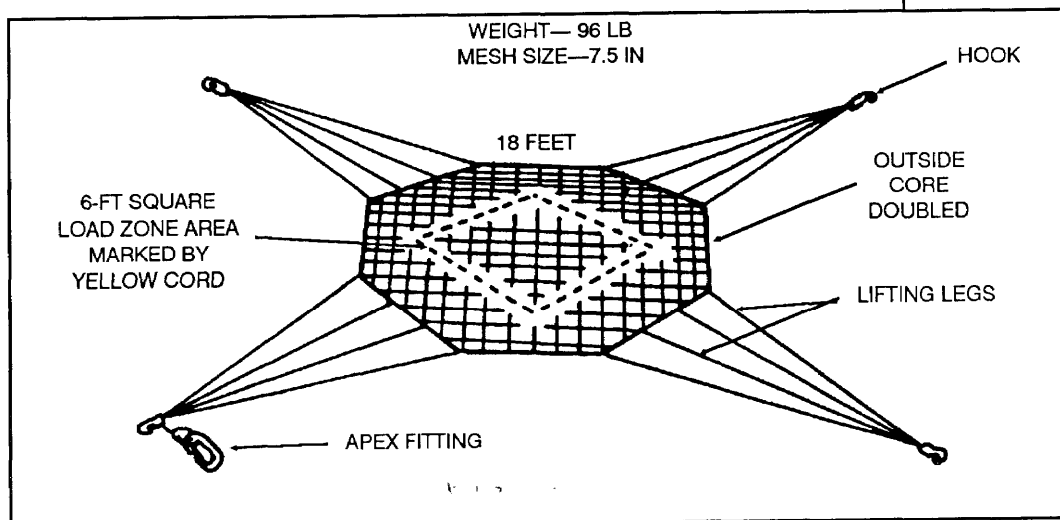

Figure I-7. The 10,000-pound capacity cargo net.
(2) *The 10,000-pound capacity net.* The 10,000-pound capacity net (Figure I-7) is made of black nylon cord. It is octagon-shaped, and it measures 18 feet across the flat sides. The load area is used as a guide to center the load on the net.